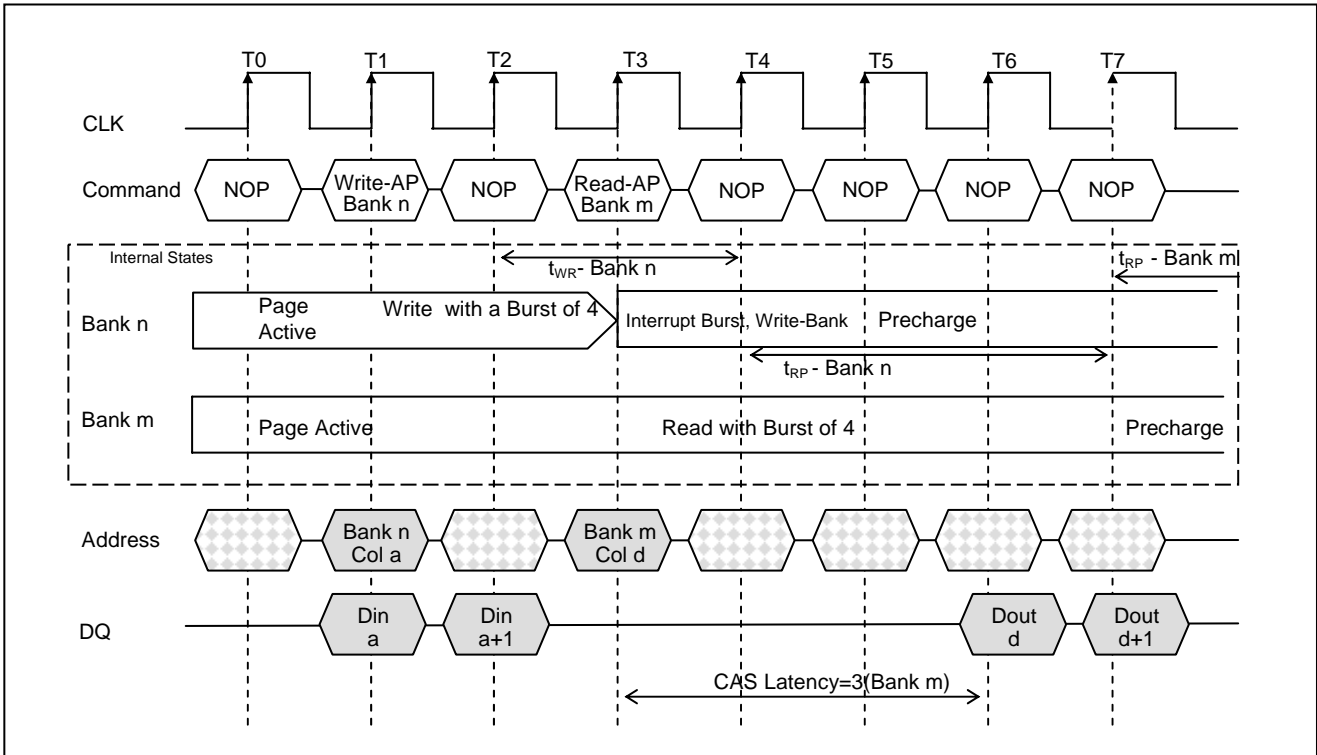

Figure 27. Write with Auto Precharge Interrupted by a Read with Auto Precharge (CAS Latency =3)
3. Interrupted by a Read (with or without auto precharge): A Read to bank m will interrupt a Write on bank n when registered, with the data-out appearing CAS latency later. The Precharge to bank n will begin after  $t_{WR}$  is met, where  $t_{WR}$  begins when the Read to bank m is registered. The last valid Write to bank n will be data-in registered one clock prior to the Read to bank m. (Figure 27.)